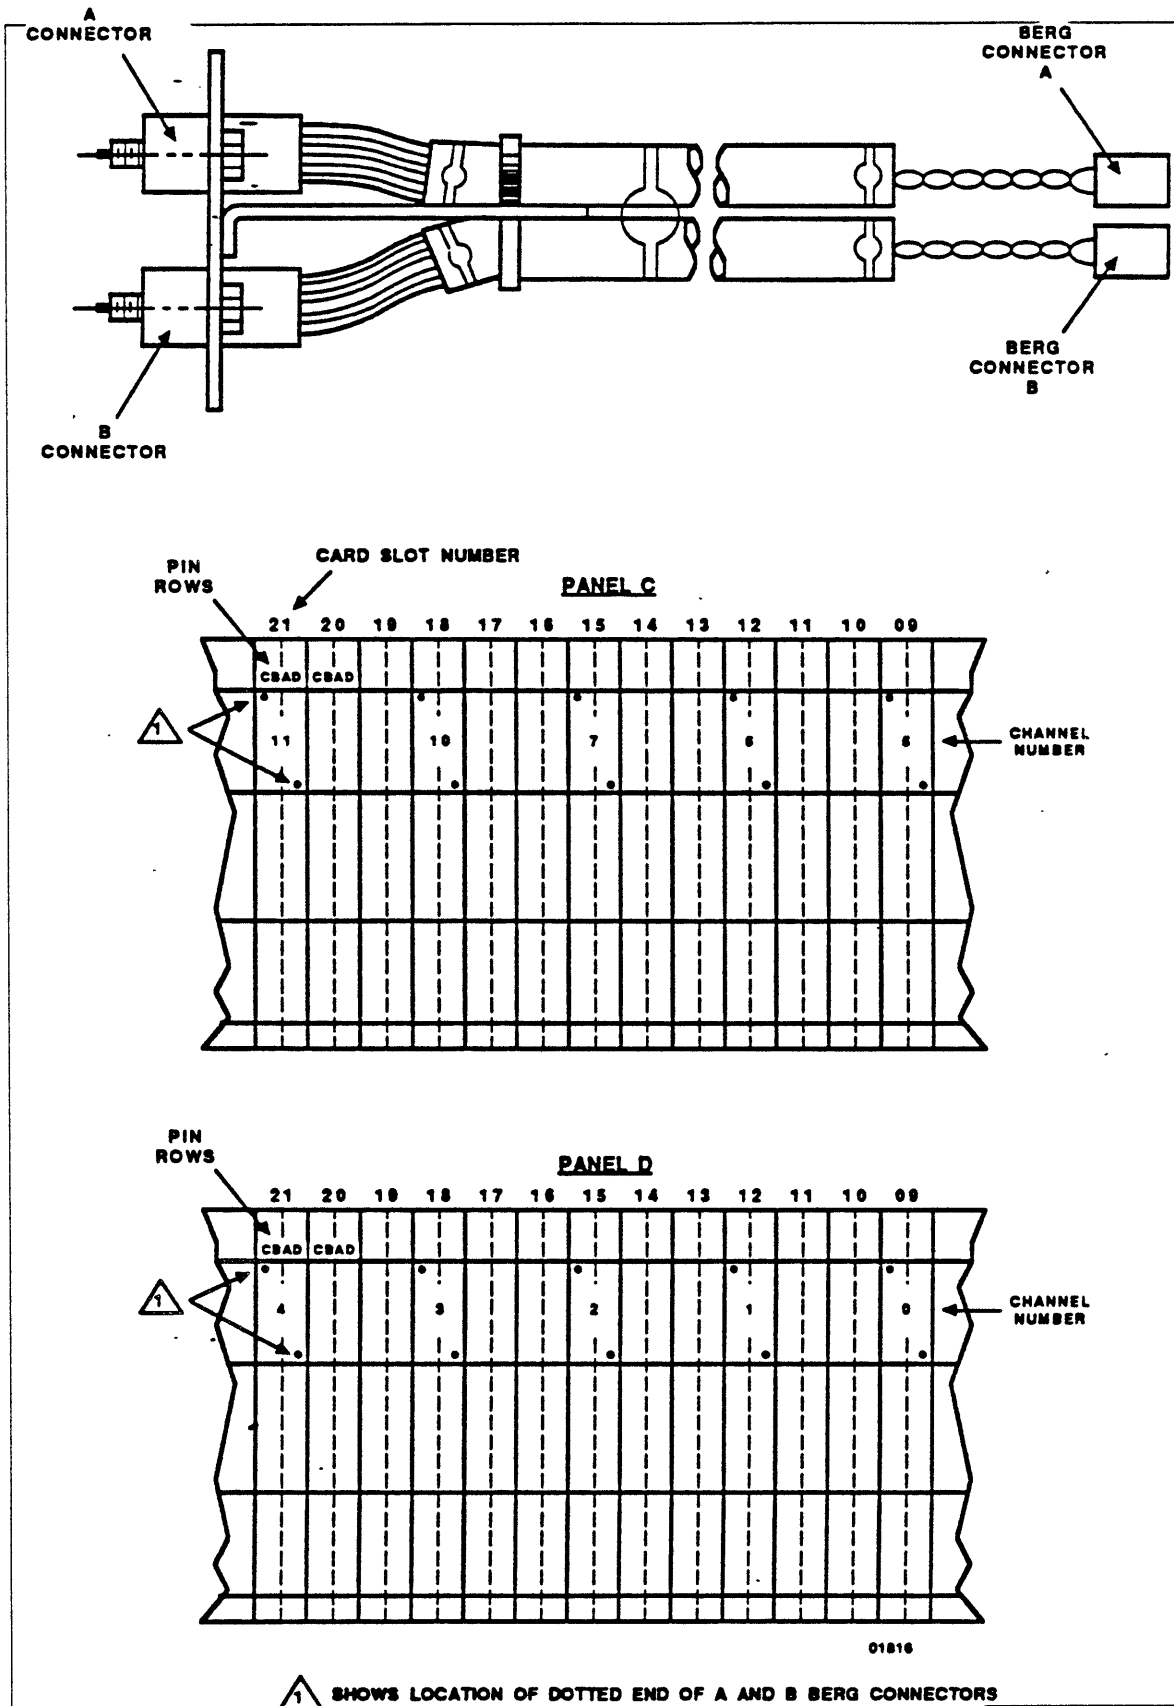

Figure 7-4. 170 Channel Berg Connector and Backpanel Pin Location
- \_\_\_ b. Plug A Berg connector on to backpanel pins row AD of channel location determined by figure 7-4. Top of connector plugs on to pin 9.